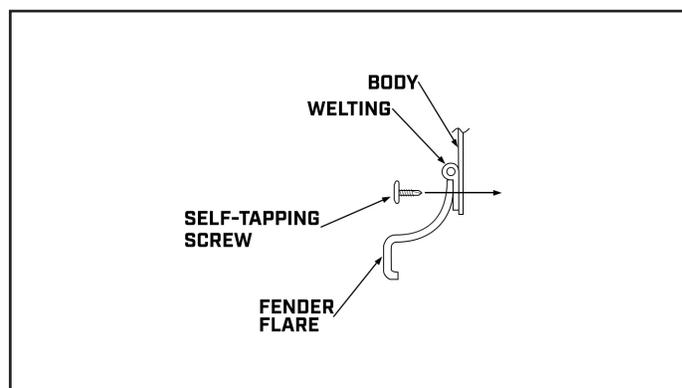

Figure 4
7. Hold the flare up to the body with the welting pinched between the flare and body. (Figure 4) Using provided self tapping screws, drill through the welting and body to mount the flare. We recommend starting from the center of the flare and working your way out to the edges. Pay attention to ensure the flare is aligned well with the body lines and that the top of the flare is level.